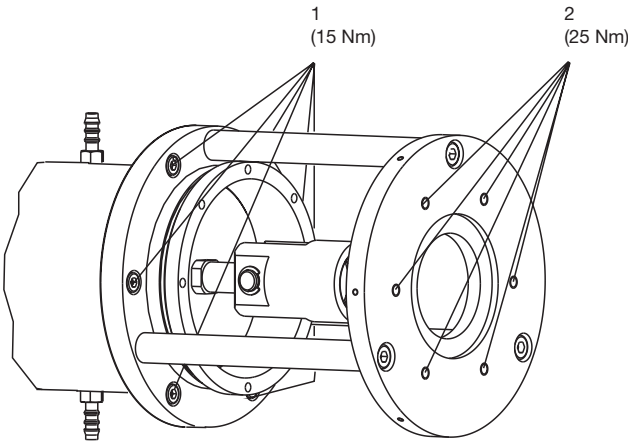

Fig. 18 Makro TZ piston liquid end (TZKa)
- On piston liquid ends (TZKa) (see Fig. 18):